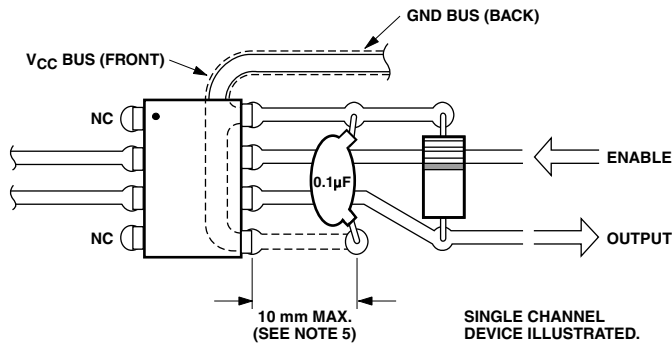

Figure 11. Recommended printed circuit board layout.
- Bypassing of the power supply line is required, with a $0.1 \mu\text{F}$ ceramic disc capacitor adjacent to each optocoupler as illustrated in Figure 11. Total lead length between both ends of the capacitor and the isolator pins should not exceed 20 mm.